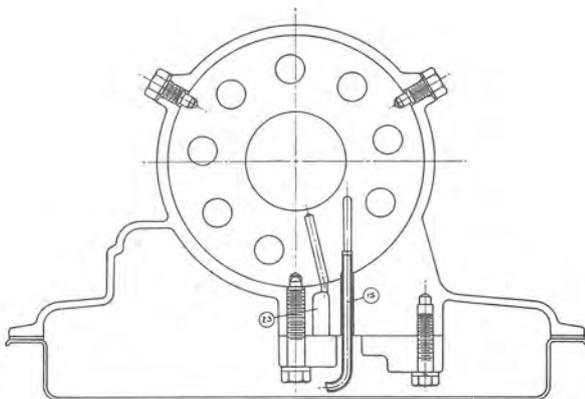

Fig. 4-91. Center support, retention and passages
32. From the outside of the transmission case remove the two centre support screws, see Fig. 4-91. With-
- Turn the fluid passage holes in the center support upwards and fit the assembled unit into the transmission case. (Note that the holes point downwards when the transmission is turned the right way up, see Fig. 4-91.)